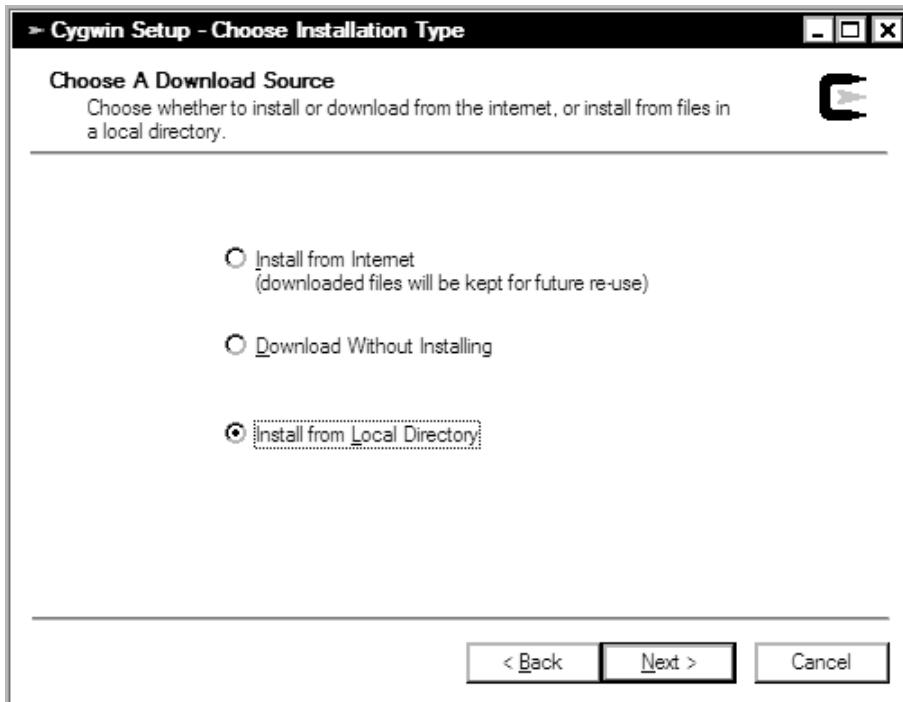

Figure 2-7. Cygwin installation: installing using the downloaded packages
11. After the files have downloaded, run the installation program again, but install the files from the local cache. Run the setup program again, and this time, select Install from Local Directory and click Next (see Figure 2-7).